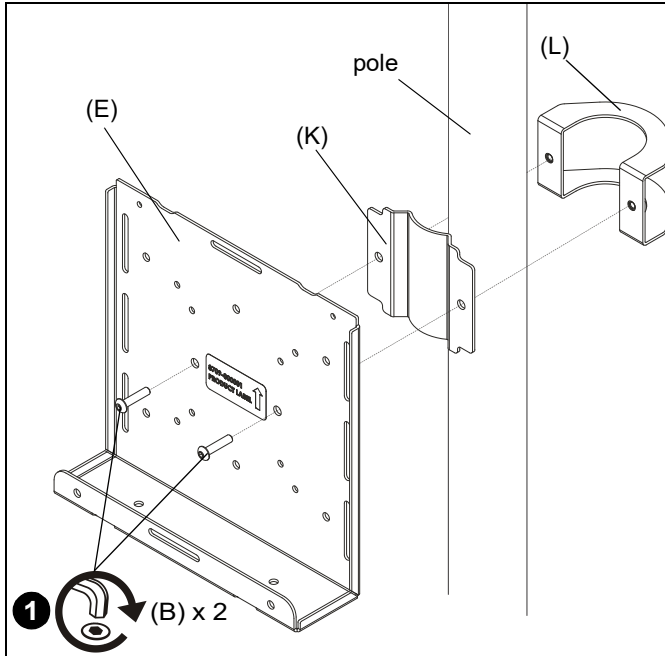

Figure 5
1. Use two #10-24 x 7/8" button head cap screws (B) to install thin client bracket (E) to pole clamp (K), pole brace (L) and around pole. (See Figure 5)